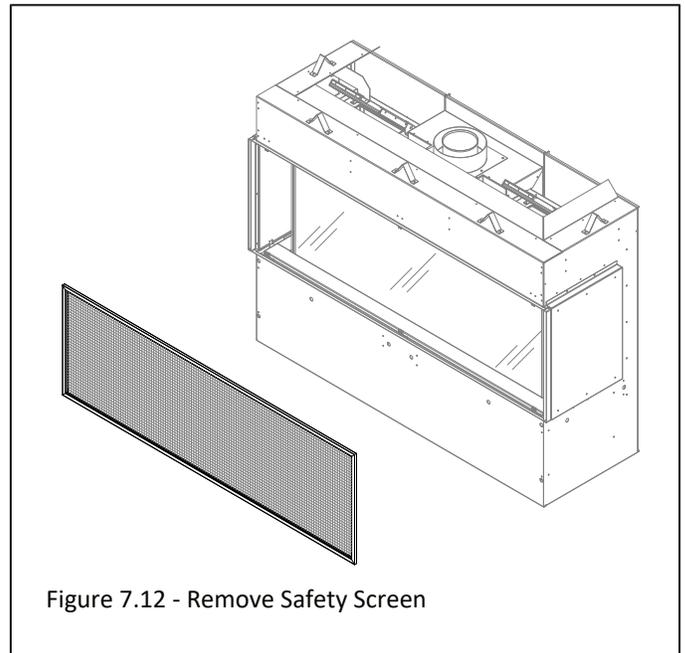

Figure 7.12 - Remove Safety Screen
2. Remove the safety screen, exterior media tray, firebox glass, and crushed media. You may find it beneficial to remove the lower glass brackets for increased accessibility. Figure 7.12, 7.13, and 7.14.